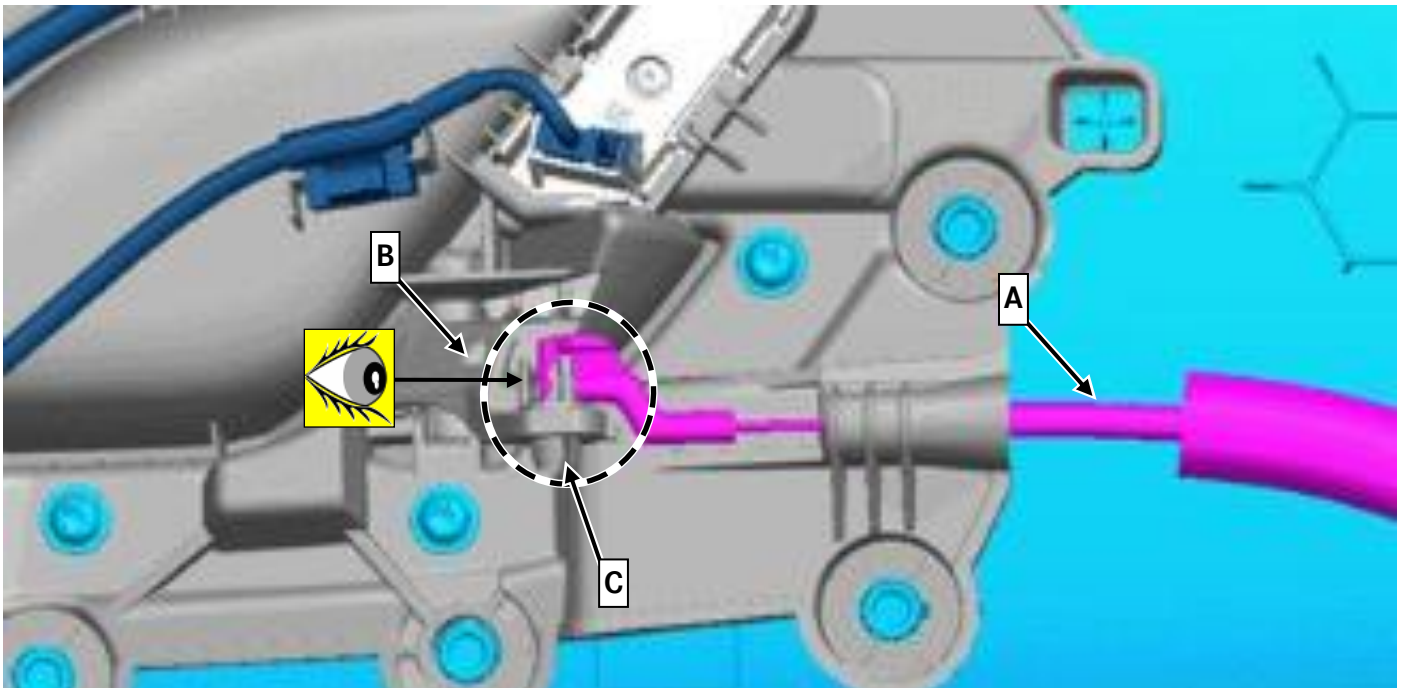

Figure 1
2. Check the bowden cable for the interior door opener (Figure 1, A) is correctly mounted in the crown clip (Figure 1, C) at the interior door release mechanism (Figure 1, B).
1. Hook and clip the interior door handle bowden cable correctly into the crown clip (Figure 1, C).